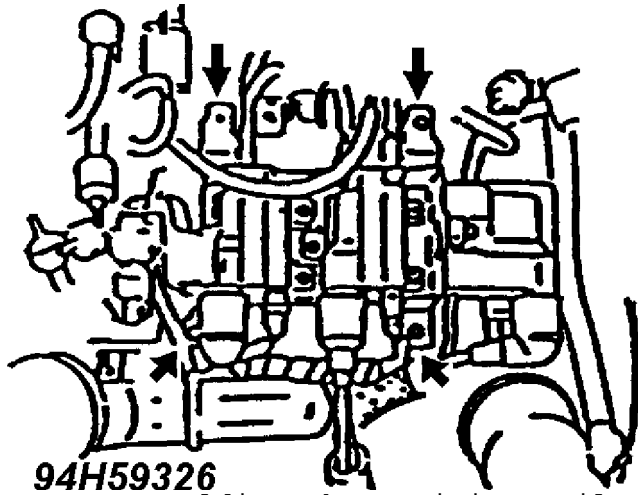

Fig. 13: Four Nuts Holding the Ignition Coil Assembly
21. Remove the ignition coil assembly. Remove the four nuts shown in Fig. 13. Tightening torque of the nuts for reassembly: